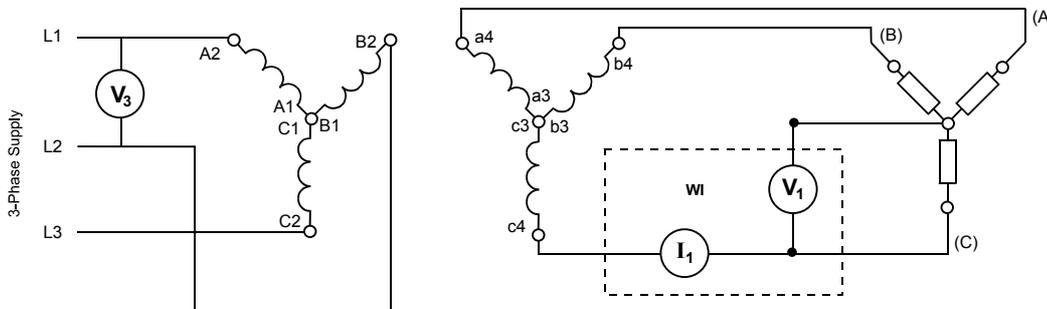
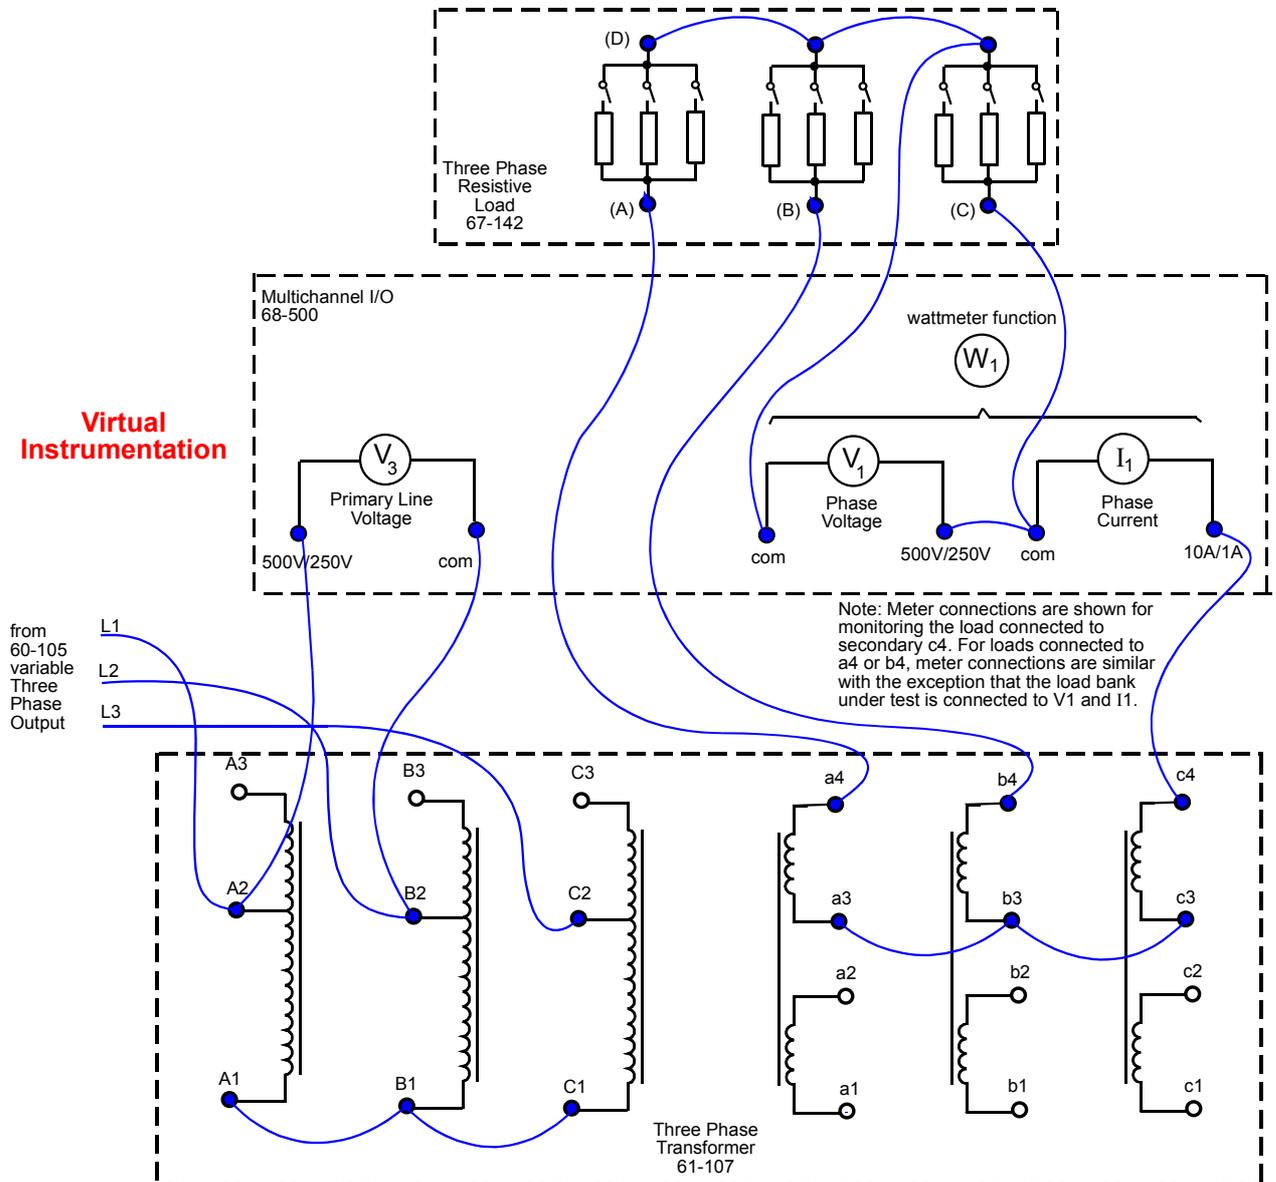

Figure 4-14-5
Figure 4-14-6: Practical 14.1 Circuit Diagram
Make the connections shown in Figure 4-14-6. A simplified circuit diagram is shown in Figure 4-14-5. At this stage, V1 and I1 should be connected in the c3/c4 secondary winding circuit as shown to monitor power (W1) to the appropriate resistor bank.
Disconnect secondary winding connection, b4 to (B), from its resistive load bank and connect the wattmeter V1 and I1 as shown in Figure 4-14-5 for the second measurement.
Disconnect secondary winding connection, a4 to (A), from its resistive load bank and connect V1 and I1 as shown in Figure 4-14-5 for the third measurement.